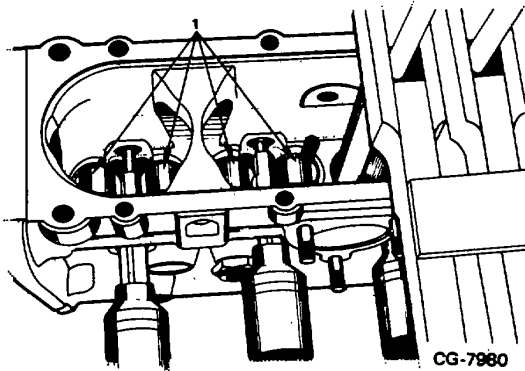

Figure 7. Tappet Positioning
- a. Insert each tappet in housing so that roller tappet axis is at a right angle to the pump (Figure 7)